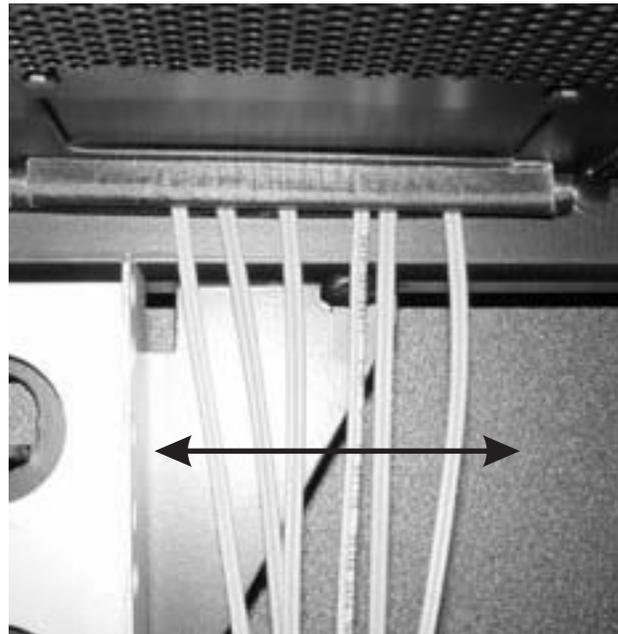

Figure 24. Positioning the Fibre Channel cable inside the frame
6. After you route the cables inside the frame, position them as shown in Figure 24 on page 108